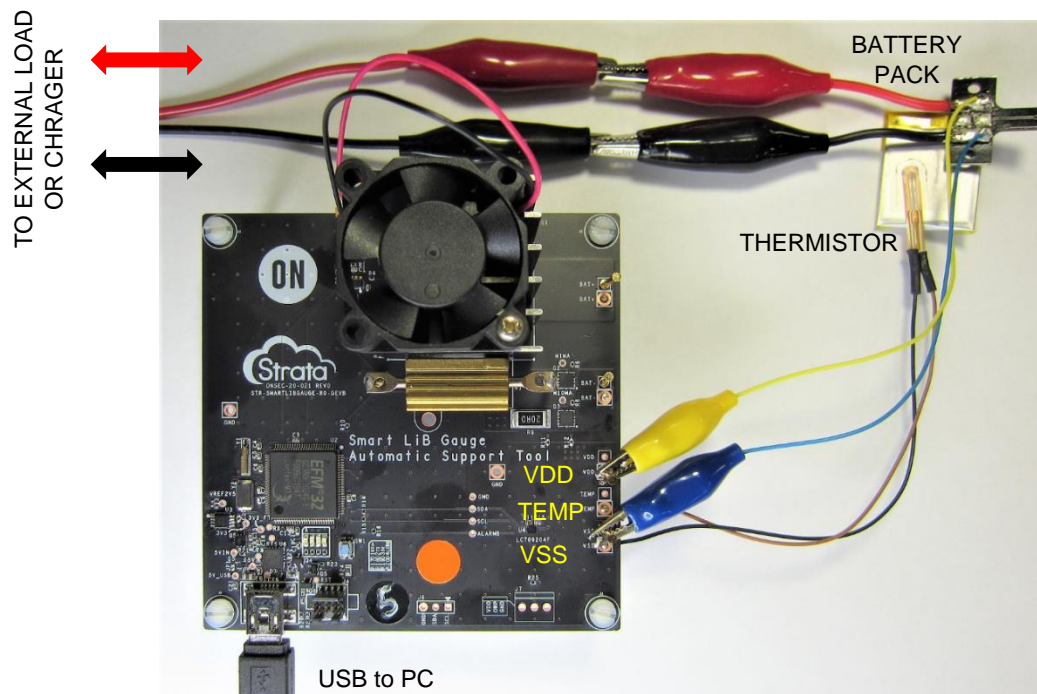

Figure 9. WIRING TO A BATTERY PACK WITH A CONNECTOR AND AN EXTERNAL LOAD DEVICE
- Connect the battery and a thermistor and an external charger in the same manner, as shown in Figure 9. The charger should follow general CC-CV charging methods and satisfy the battery charging specifications (e.g., charging voltage, charging current, etc.).